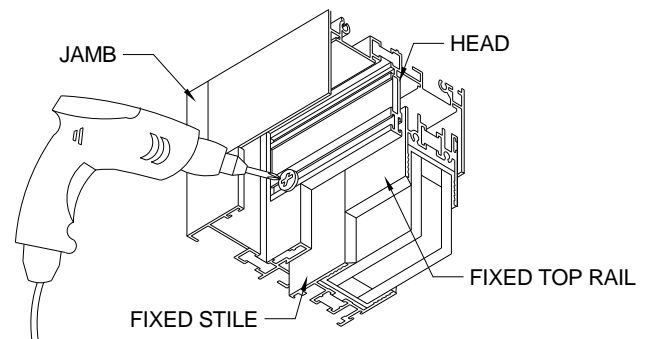

Figure 19:
3. From the interior, using a 1/8” drill bit, drill a hole into the fixed stile through the mohair channel (Figure 19). Then insert a black #8 x 3/4” FHP TEK security screw.